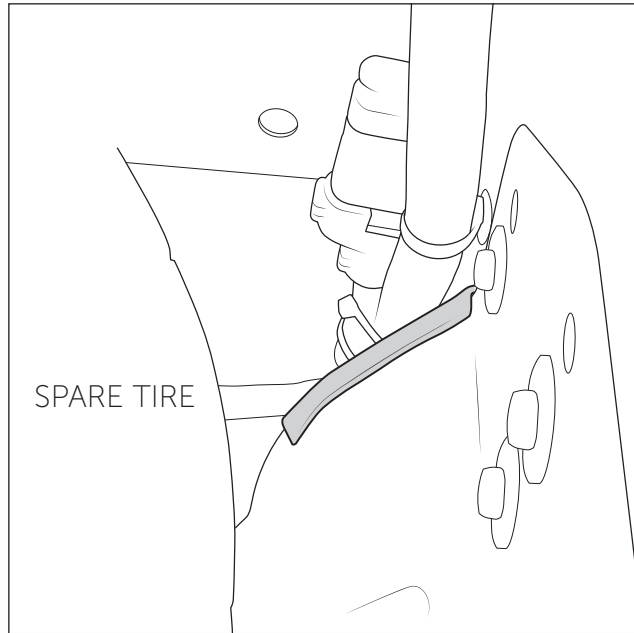

Figure 32
- B. Reinstall the heat shield and install the supplied section of edge guard onto edge of spare tire exhaust heat shield in the area the wires are closest (fig. 32). Failure to do this could allow the harness to be damaged by the edge of the heat shield.
- A. Torque AEV Frame Rail bracket nuts (fig. 32) to **43 lb-ft.**